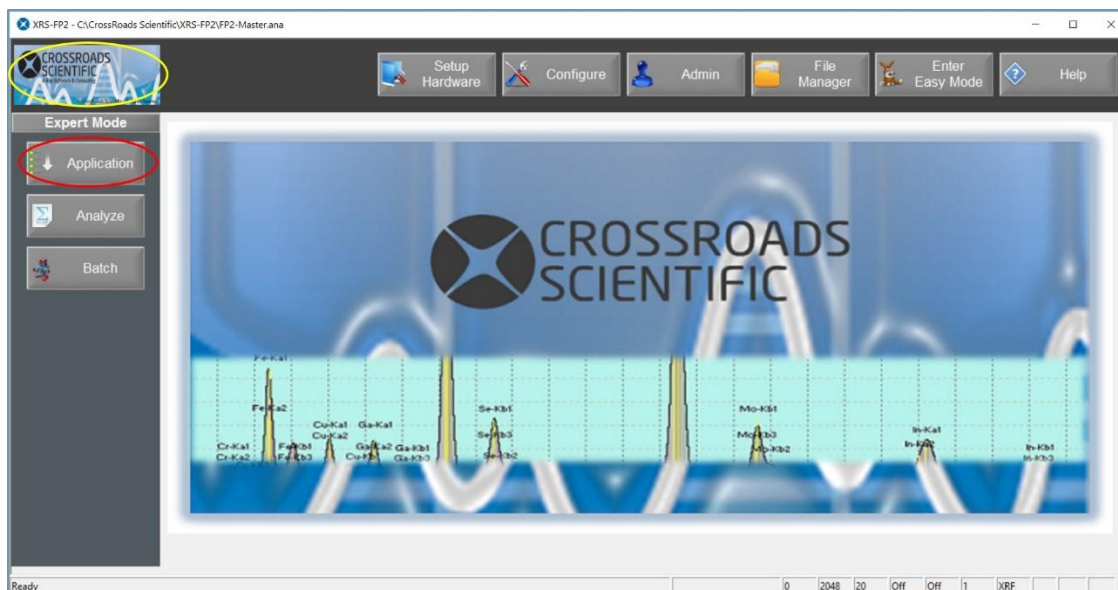

Figure 10. XRS-FP2 Application Setup. From the XRS-FP2 home screen select the application button to setup the application.
8. Now that the system has been configured and hardware setup, we move to the **application workflow**, where the application and methods are defined. First click on the **Home** button (Fig. 10, yellow circle), then select the **Application** button (Fig. 10, red circle).